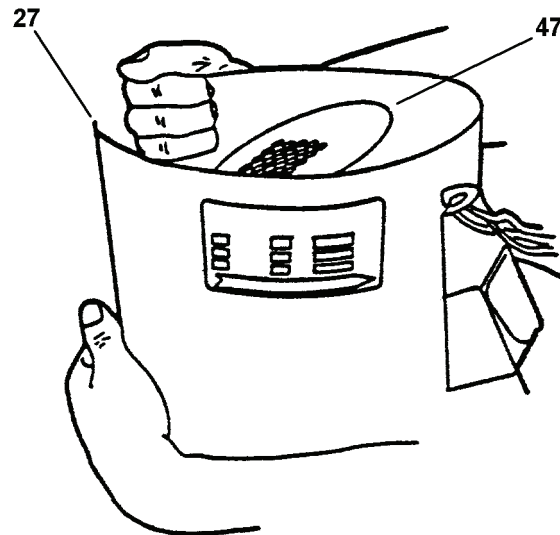

Figure 3-2. Band Removal.
- d. Grasp trim band (27, Figure 3-2) with both hands. Spread band wide enough to clear bottom cover (47). Angle upper edge of band towards you so opening in shell passes over terminal connection area. Remove Band.